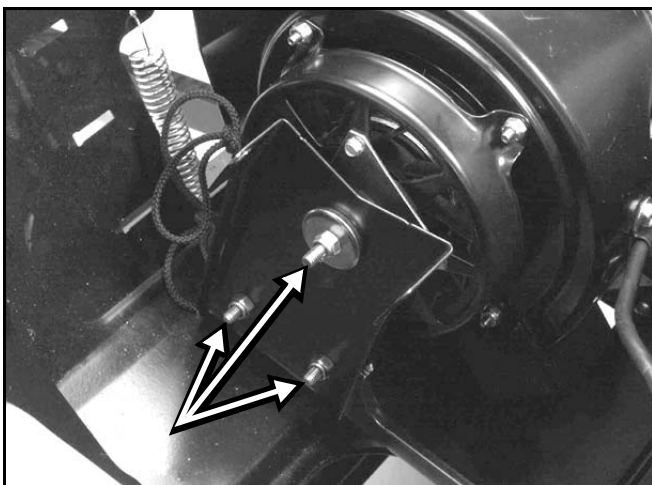

Figure 28
15. Remove the 3 locknuts shown in Figure 28 to access the recoil starter. Also the engine cradle and engine can be separated if necessary.
3. Remove the recoil support. You can remove the 2 bottom nuts and bolts and leave the support attached to the recoil or remove all 3 and separate the support (Figure 28).